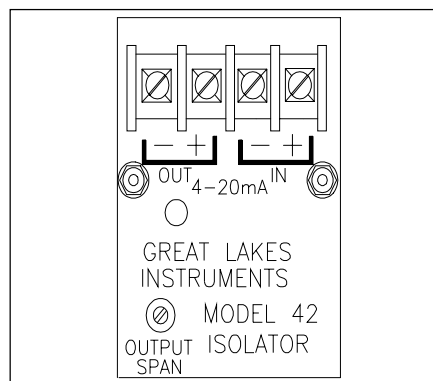

Figure 2-3. Isolator Output Module
4. Adjust the isolator output span potentiometer (see Figure 2-3 for placement) so both of the milliamper meters read the same.